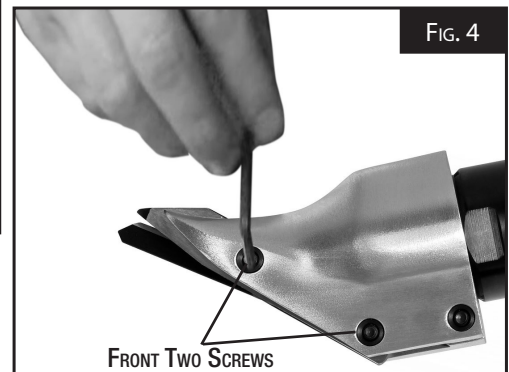

FIG. 4
3. Remove the front two screws but do not remove the cutter head from the tool. (Fig. 4)